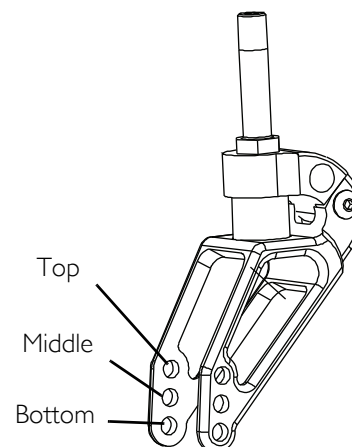

FIGURE 6.12 Front Seat-to-floor Height Adjustment
NOTE: For this procedure, refer to FIGURE 6.12.
1. Refer to FIGURE 6.12 and the charts on the following pages to determine available front seat-to-floor heights for each wheelchair frame size.